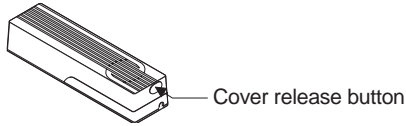

Figure 2. Transmitter Cover Release Button
- Remove the sensor outer cover by pressing the cover release button on the end of the transmitter (see Figure 2).
- Remove the Water Sensor *transmitter* outer cover by pressing the round button on the end of the transmitter (see Figure 2).